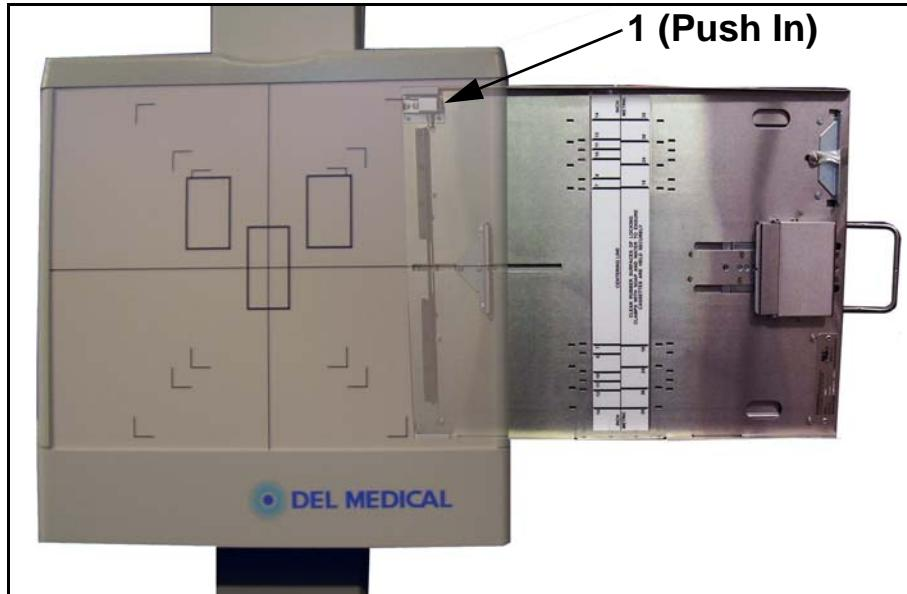

Figure 5-2. Cassette Tray Removal
- 2 While firmly pressing on limit button (1 in Figure 5-2), pull the cassette tray completely out of the bucky.